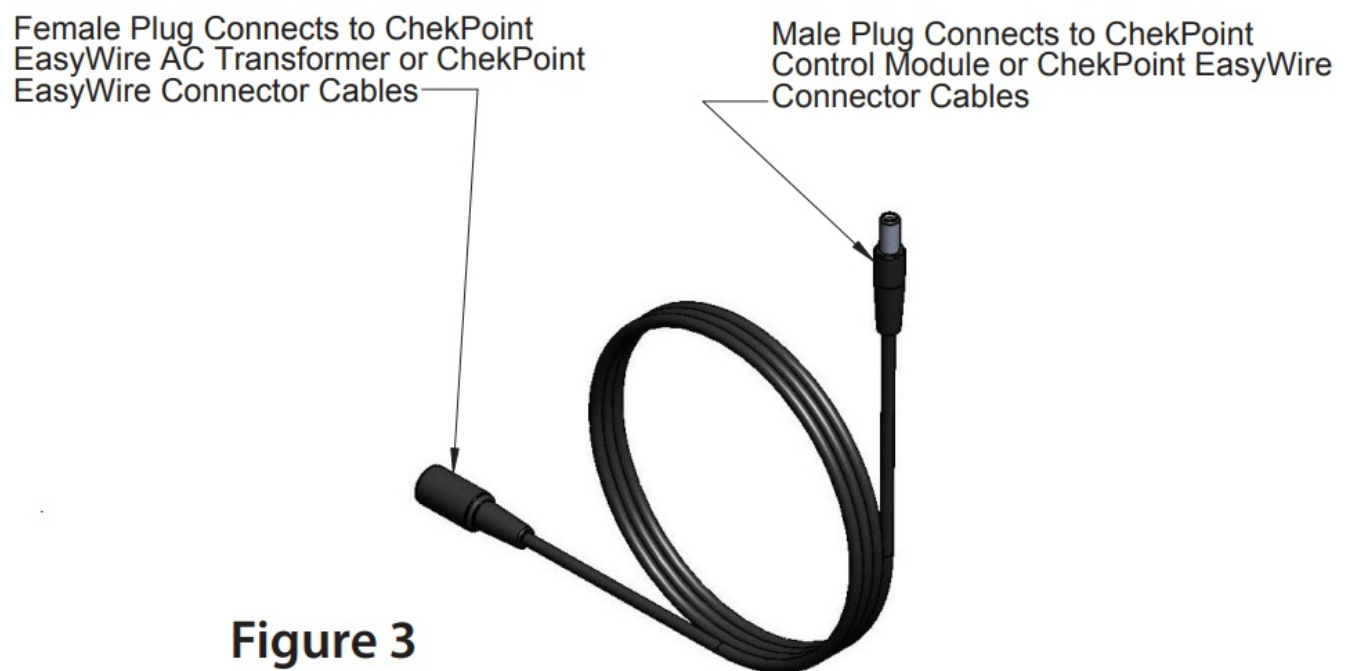

Figure 3
4. The EC-EASYWIRE5EXT kit is a 60" extension which can be used in between the multiple EC-EASYWIRE4CC and also the controllers (**Figure 3**).